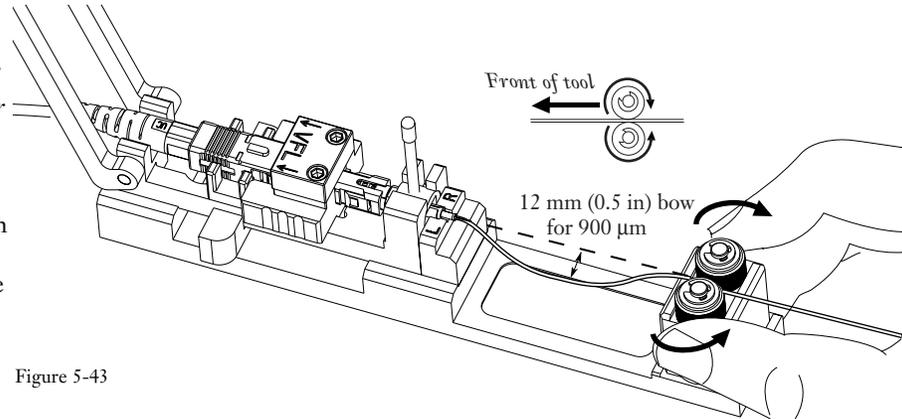

Figure 5-43
**5.8-3 For installations on 900um fiber** –lightly pinch the index rollers on the fiber, and slowly rotate the rollers until a 12 mm (0.5 in.) bow forms in the fiber between the connector and the index rollers (Figure 5-43).